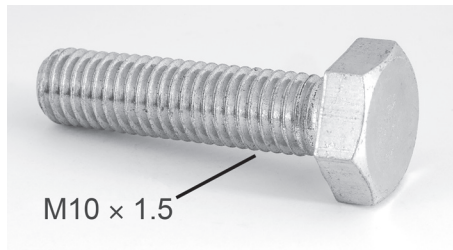

Fig. 11.5
- (ii) Fig. 11.5 shows a threaded bolt that could be used to connect two links together. State the meaning of the label M10 × 1.5.